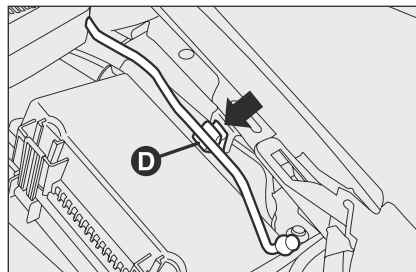
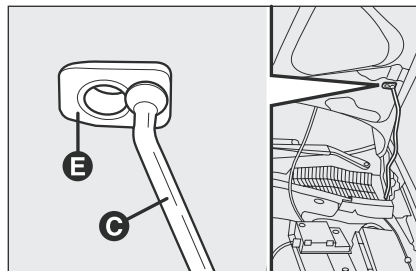

fig. 78
fig. 79
- lift the bonnet and at the same time release the rod **D-fig. 78** from the catch, then fit end **C-fig. 79** of the rod into the bonnet recess **E**.
- hold the bonnet up with one hand and with the other remove rod **C**-fig. 79 from seat **E** and fit it back into its catch **D**-fig. 78;